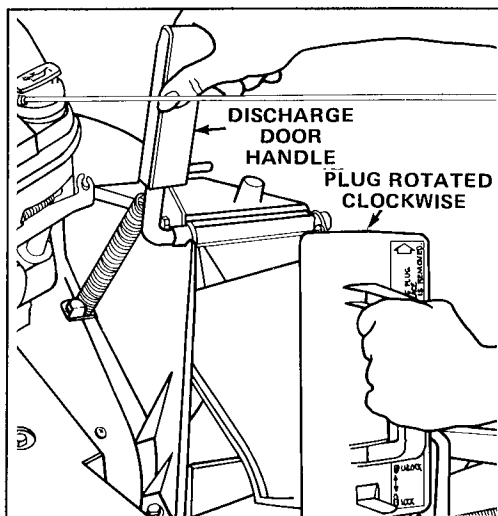

Figure 10
1. Make sure engine is off. Open the discharge door by pulling forward on the handle and moving it rearwards (Fig. 10). Hold the discharge door handle from closing while inserting the plug.
2. Since the plug is slightly wider than the discharge tunnel opening, you must rotate the plug clockwise slightly while inserting it (Fig. 10). Make sure the